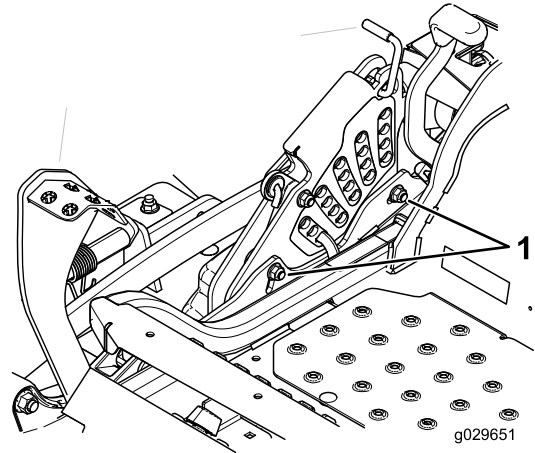

Figure 101
12. To adjust the single-point system, loosen the 2 bolts at the bottom of the height-of-cut plate (Figure 101).